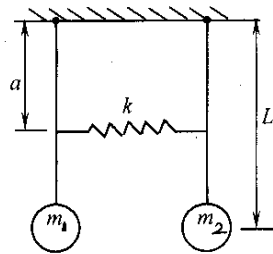

Fig. Q5(b)
- b. Two simple pendulums are connected by a spring as shown in Fig. Q5(b). If $k = 100\text{N/m}$, $m_1 = 2\text{kg}$, $m_2 = 5\text{kg}$, $L = 0.2 \text{ m}$ and $a = 0.1\text{m}$, determine the natural frequencies of pendulums and draw their mode shapes. 16